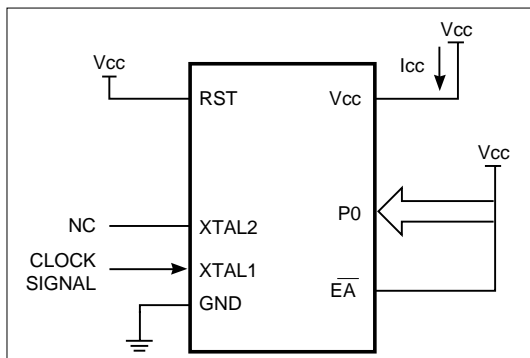

Figure 7. Active Mode
1. See Figures 7, 8, 9, and 10 for ICC test conditions.